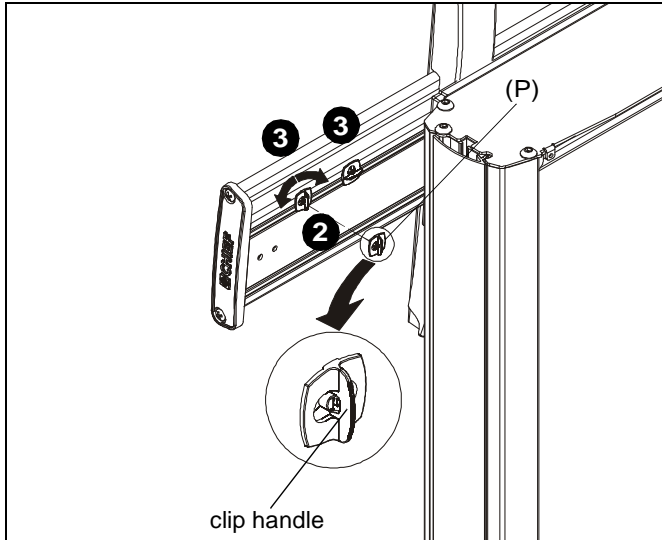

Figure 15
1. Place FCA clip (P) into groove on back of Fusion mount with clip handle in a vertical position. (See Figure 15)
2. Rotate FCA clip (P) 90° in either direction until clip handle is in a horizontal position. (See Figure 15)